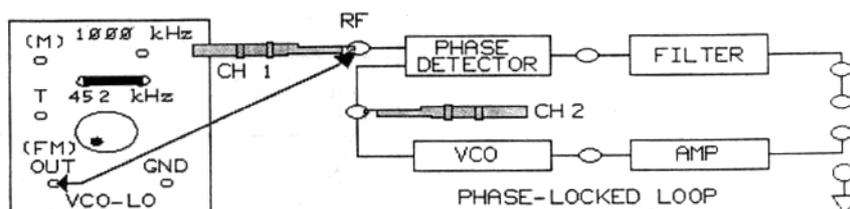

Figure 7-7.
6. On the VCO-LO circuit block, insert a two-post connector in the 452 kHz position. Connect the (FM) OUT terminal on VCO-LO to the RF terminal at the PHASE DETECTOR input on the PHASE-LOCKED LOOP circuit block, as illustrated in Figure 7-7.